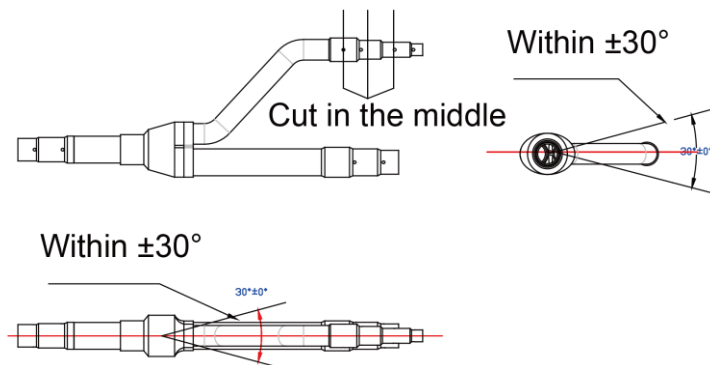

Fig. 20
(2) Y-type branch has several pipe sections with different dimension, which facilitates to match with various copper pipes. Use pipe cutter to cut in the middle of the pipe section that is of proper dimension and remove burrs as well. See Fig.20.
(3) Y-type branch must be installed vertically or horizontally.